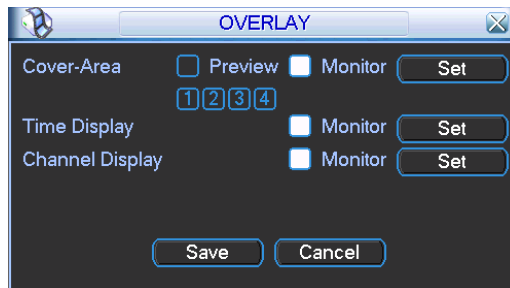

Figure 5-7
- Overlay: click overlay button, you can see an interface is shown in Figure 5-7.